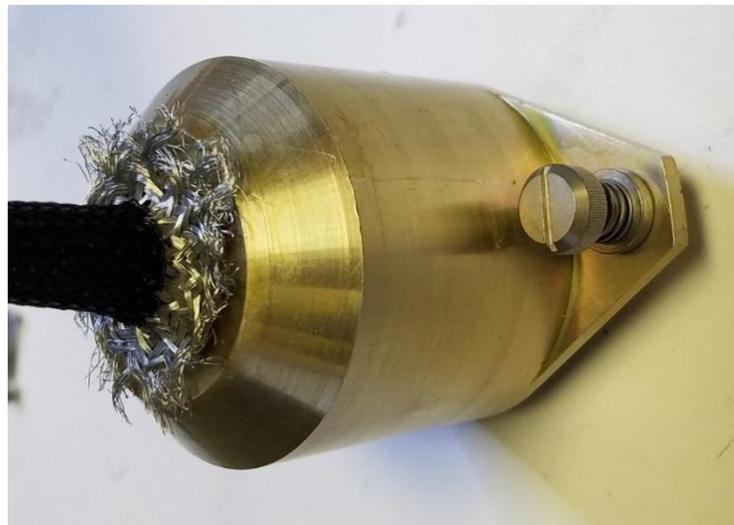

Figure 77 – Plasma Module – Gold Plug Shielding
2. Once the screws are removed, you may remove half of the rinse head. A thin metal shim will either fall out or can be slid off, be careful not to lose it. The rinse head will look like the image below (Figure 77), make sure to wipe down the interior and blade surface with a lint-free paper towel or other clean wipe. Don’t use anything except water. Make sure to clean the bottom exposed edge as indicated by the arrow. This is the edge where water escapes and where clogs will occur.